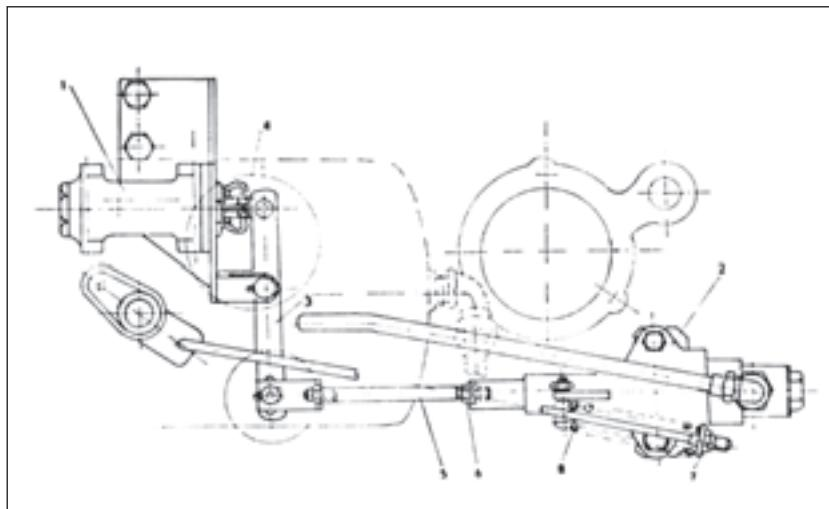

Fig. 191
In order to coordinate the brakes of the tractor and the trailer, a rocking lever (Fig. 191/3) is inserted between the pressure compensator (Fig. 191/1) and the brake valve (Fig. 191/2). The backlash between the compensator piston and the fork (Fig. 191/4) has to be eliminated. To do so, release the lock nut and turn the draw rod (Fig. 191/5). After the backlash elimination tighten the draw rod with the lock nut. The draw rod is to be attached to the lever (Fig. 191/3), namely in the second hole from the bottom. The other holes, the first or third from the bottom, can be used with regard to the various types of the trailers or saddle trailers after the tractor set has been tested.
2. Screw the draw rod (Fig. 191/5) slowly into the fork till the air „risses” for the first time from the brake valve and the pressure on the gauge, which has been connected to the clutch head (Fig. 98), partially drops for the first time. Then turn the draw bar by 1/4 up to 1/2 of a turn in the opposite direction. Lock the draw bar (Fig. 191/5) in this position with the nut (Fig. 191/6).
With the brake pedal very slowly depressed, the draw bar (Fig. 191/5) should move 1.2 to 2 mm, then the pressure at the trailer coupling head will drop to zero. Just after this drop, if the pedal is further pressed down, the draw rod must move at least another 2 mm. Similarly, the pressure at the trailer coupling head will drop to zero when pulling the hand brake lever to the third tooth of the ratchet wheel.
The synchronization of the tractor hand brake and the trailer brakes is adjusted with a nut (Fig. 191/7). The nut has to be adjusted so that the spring (Fig. 191/8) is not preloaded and is without a play.